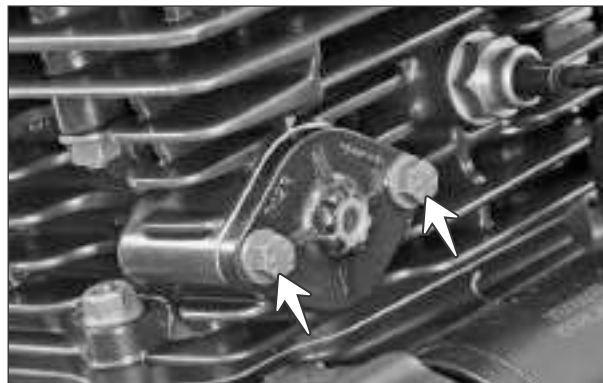

Fig. 3.26
- Remove the hexagonal flange bolts (M6x16 - 2 nos.) from the adjuster assembly mounting and take out the adjuster assembly along with a gasket. (Fig. 3.26)